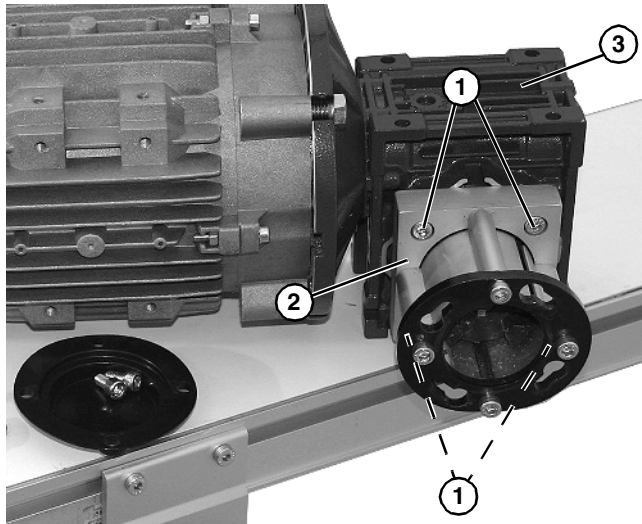

Figure 14
5. Remove four M6x20 socket head screws (**Figure 14, item 1**) and remove spacer plate (**Figure 14, item 2**) assembly from gearmotor (**Figure 14, item 3**).